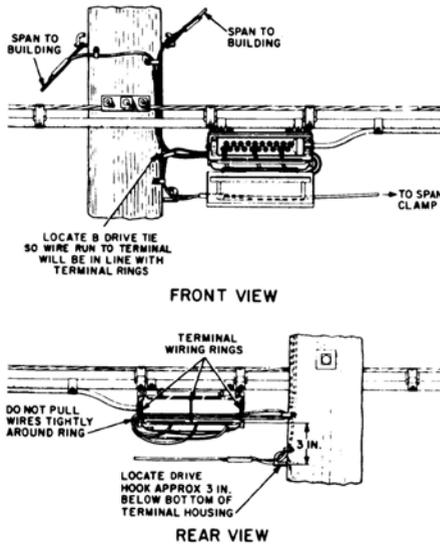

Fig. 9 —Running Drop Wire to N-Type Cable Terminal From Pole
3.11 Refer to Fig. 9, 10, and 11 for typical arrangements of drop wires at N-type terminals. Note that the arrangements of wires are similar at all strand-mounted cable terminals.